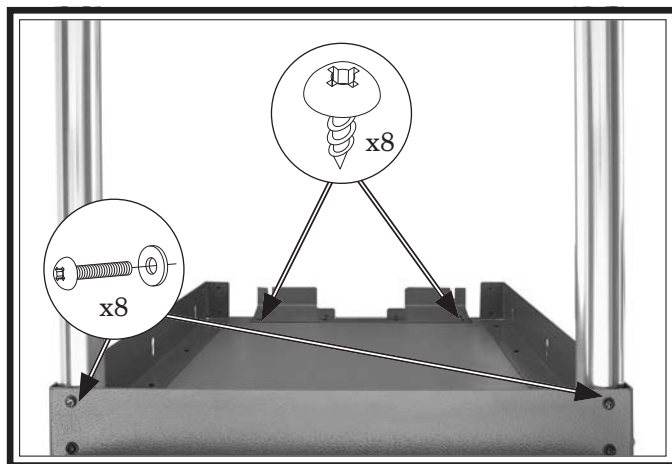

Figure 32. Legs and table bracket attached.
2. Fasten (2) support legs to outfeed table with (8) M6-1 x 12 Phillips head screws and (8) 6mm flat washers as shown in **Figure 32**.
3. Attach outfeed table front bracket to outfeed table with (8) M4 x 16 tap screws (see **Figure 32**).